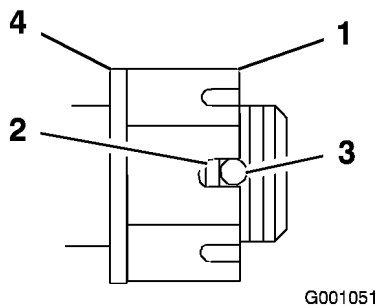

Figure 41
4. Torque the slotted nut to 125 ft-lb (170 N•m) (Figure 41).
5. Check the distance from bottom of slot in nut to inside edge of hole. Two threads or less should be showing (Figure 41).
7. Torque the slotted nut to 125 ft-lb. (170 N·m) (Figure 41).
8. Tighten the nut until the next set of slots line up with the hole in the shaft (Figure 41).